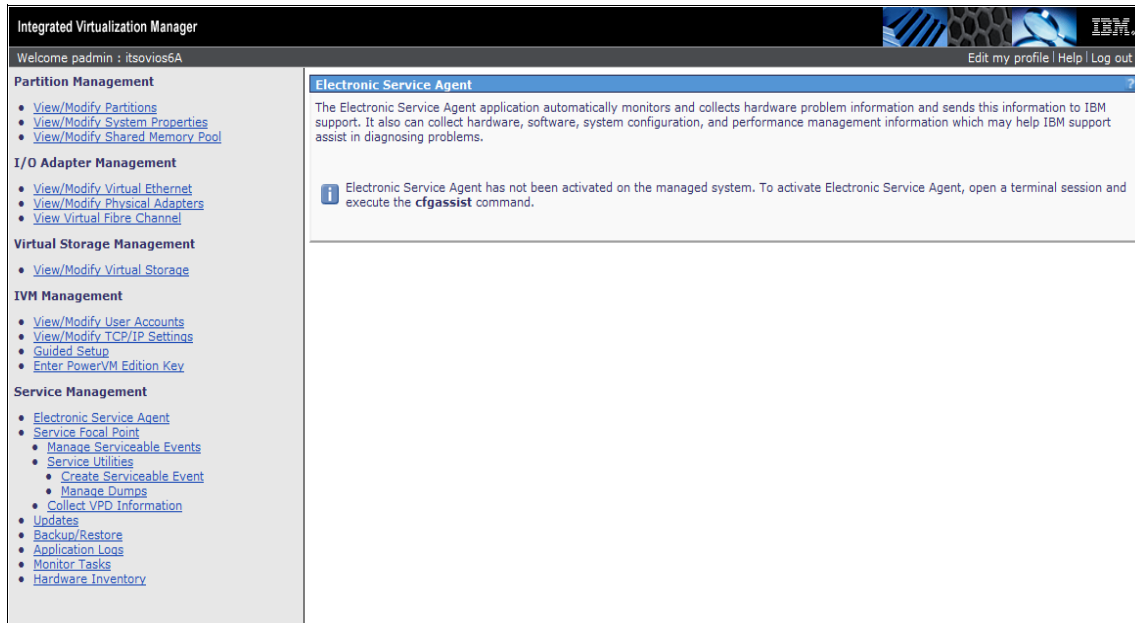

Figure 7-169 IVM showing ESA not activated
- ▶ Is disabled by default, as shown in Figure 7-169